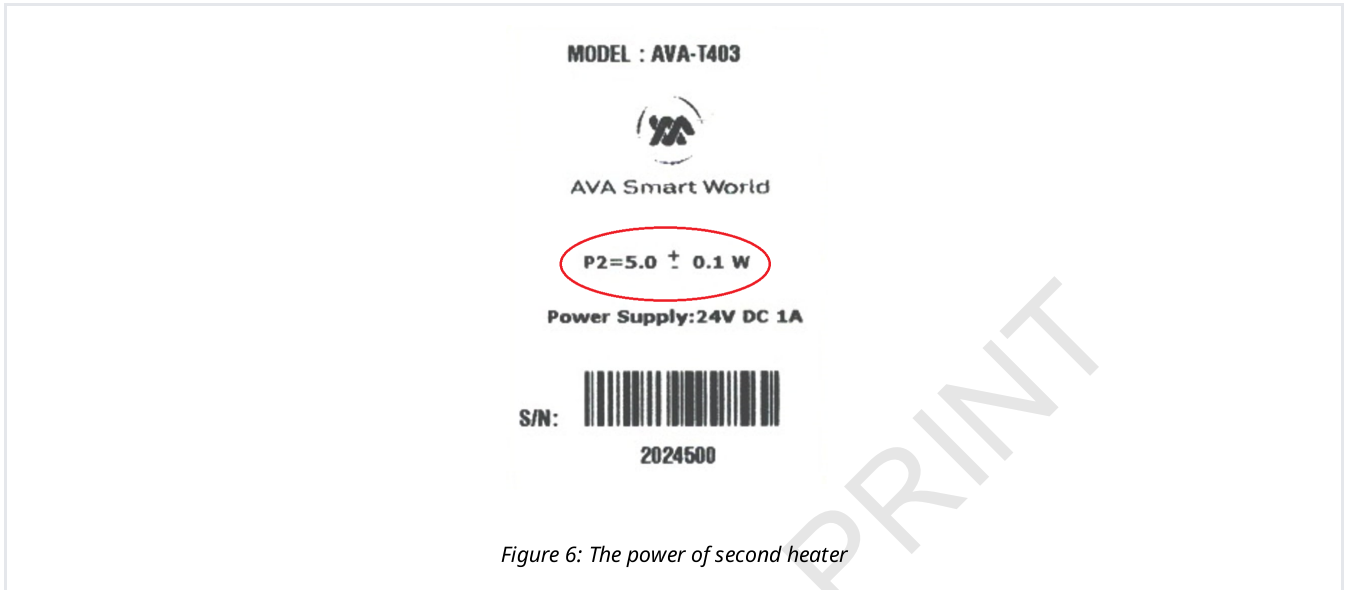

Figure 6: The power of second heater
4. As shown in Figure 5, there is one switch for turning the fans on and off () and there are also three switches for turning on the heater (  ). The icon for each switch is stamped below it. The first heater is a 1.95 W heater, the power of second heater is written on the device as shown in Figure 6, and the power of third heater is unknown.
Let us take the direction of the beam as the z -direction (see Figure 6), and at first, we'll assume that the slide is in the x - y plane and its horizontal edge coincides with the x -axis (i.e. the angle in Figure 6 is equal to zero). In this case the phase difference between the two parts of the beam clearly is: